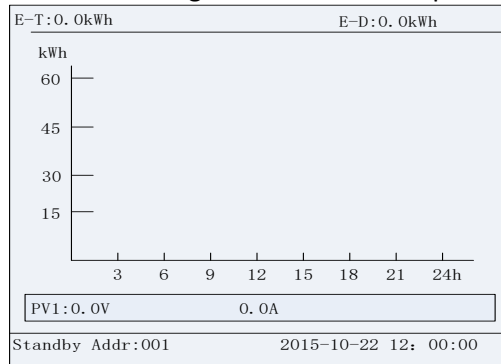

Figure 6-5 Normal Operation Status
- When the LCD screen shows the normal operation status Figure 6-5 and the "RUN" light on the LED panel is illuminated, this is an indication that the grid connection and power generation were successful.